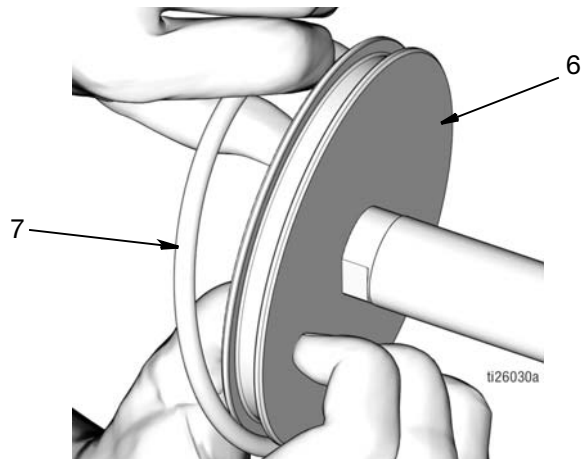

FIG. 49
- e. Apply a thin layer of grease to o-ring (7). Install o-ring (7) around piston (6) as shown in FIG. 49.